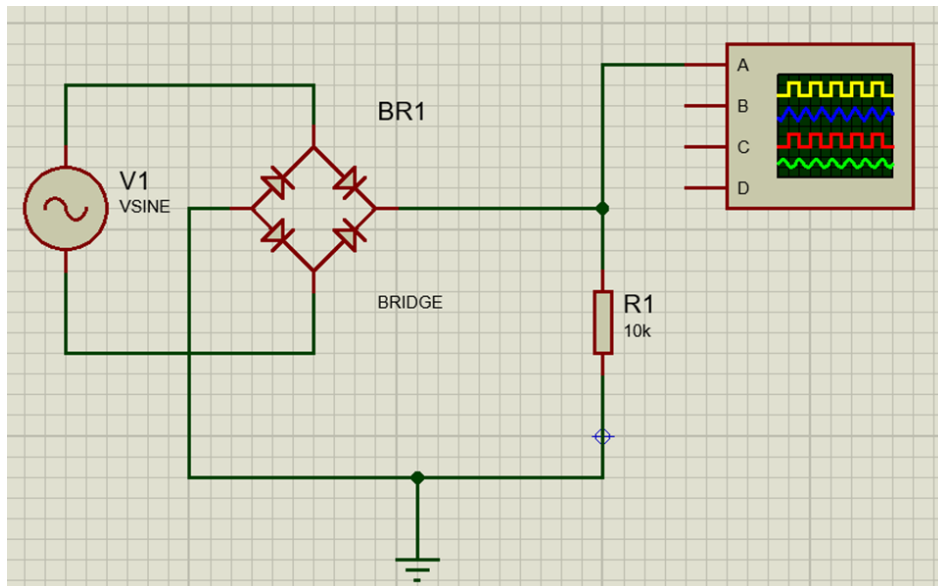

Figure 2: Full Wave Rectifier Circuit Using Proteus
2. Start placing components on the schematic board by referring to the Figure 2.